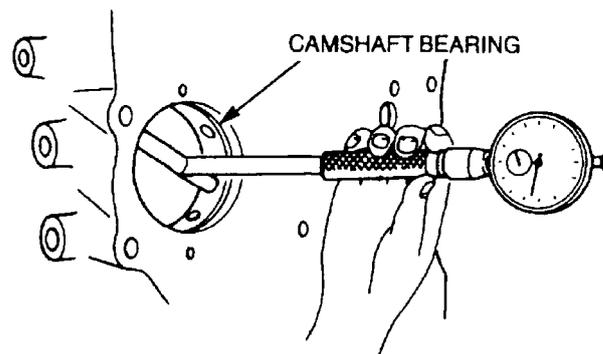

Figure 23 Measuring the Camshaft Bearings
- g. Using an internal micrometer, measure the internal diameter of the camshaft bearings (Figure 23). The standard diameter is 56.0 to 56.03 mm (2.2047 to 2.2059 in). If the camshaft is serviceable, subtract the camshaft bearing journal diameters from the internal diameters of the camshaft bearings. The standard clearance is 0.03 to 0.15 mm (0.0012 to 0.0059 in). If the clearance exceeds the limit, replace the camshaft bearings (Para 21 details the camshaft bearing removal procedure).